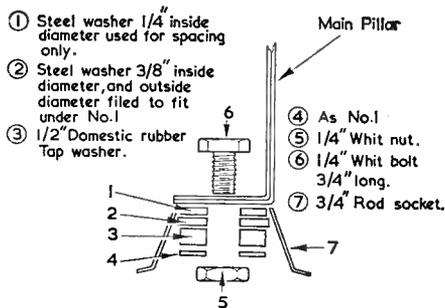

Fig. 4. Base with friction stay
Fig. 4 (a). Wires with insulation which melts at soldering temperatures may take up this appearance at a solder joint. The insulation extends right up to the solder blob. A joint of this nature should be suspected (b). In this joint the solder extends out from the blob along the wire. Such a joint may be considered reliable
may be enamel, or nylon and acetate fibre. If you get a solder joint of this nature in which the insulation extends right up to the solder blob (Fig. 4 (a)), it may be giving you trouble because the insulation might not have been fully melted during soldering. If, on the other hand, the solder blob extends along the wire
The base consists of a $\frac{3}{4}$ in wardrobe rod socket and a series of washers which, when assembled, give a very strong but movable base (see Fig. 4).
- 1 3/4in metal wardrobe rod socket (see text and Fig. 4)